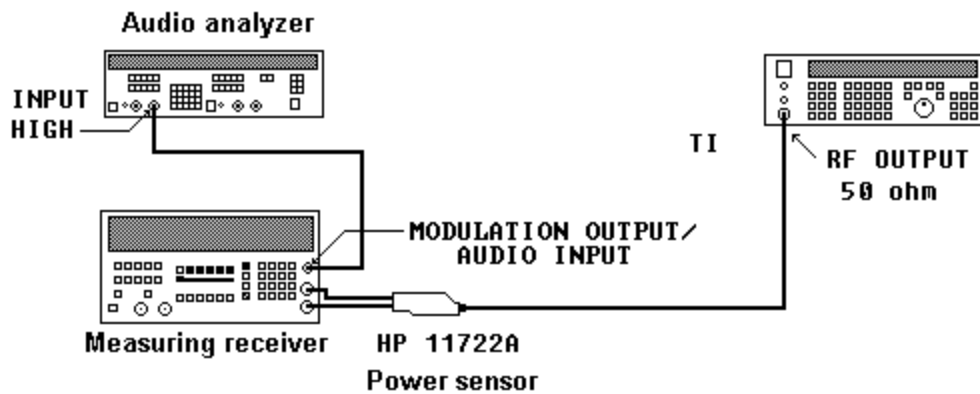

Figure 4. FM Modulation hookup
(1) Connect equipment as shown in figure 4.